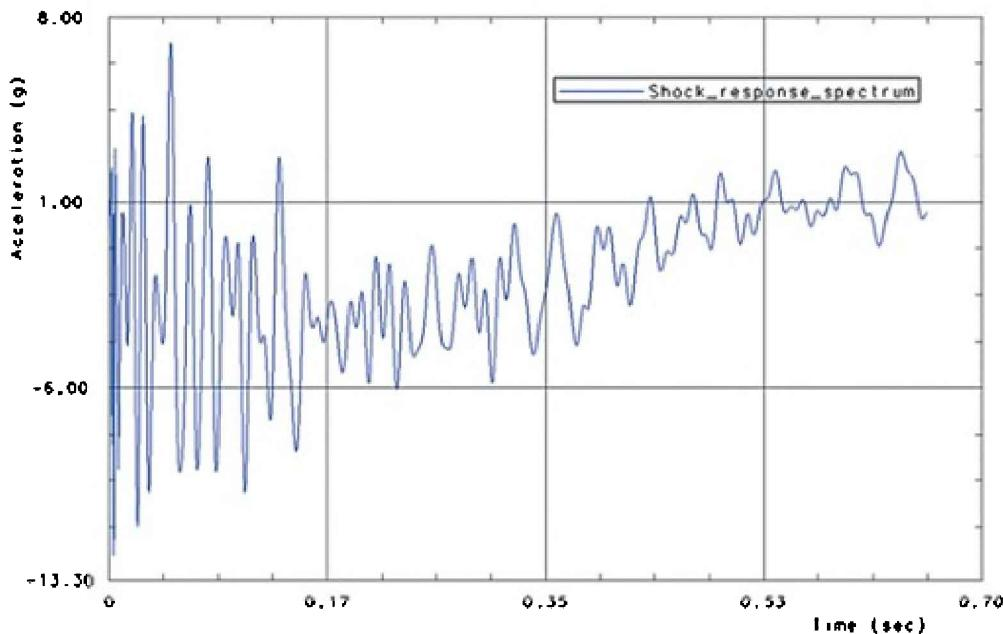

Figure 3.37. Impact
5.2. The external influence in this example is the time dependence of acceleration shown in Figure 3.37. The corresponding tabular values are saved in the *Shock_spectrum.csv* file.